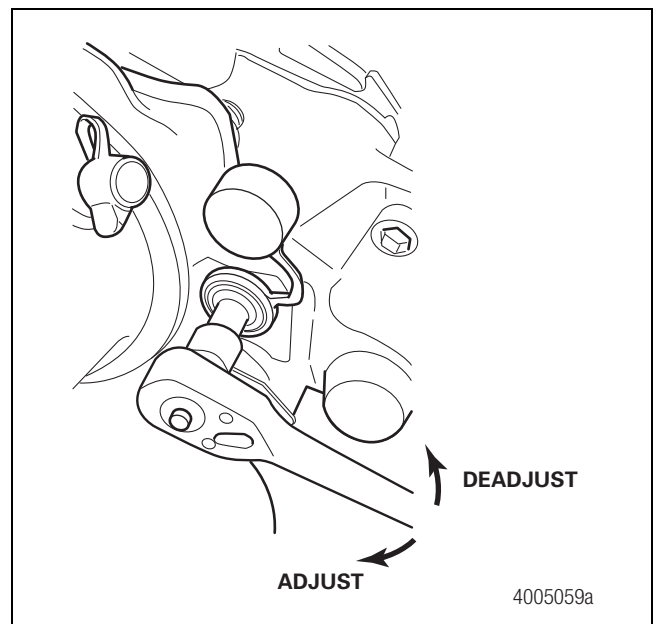

Figure 5.14
1. For disc brake wheel ends, back off the brake caliper until the rotor is clear from the pad linings about 1/16-inch (1.588 mm) gap or more. Refer to Maintenance Manual MM-0467, EX+™ Air Disc Brake, for more information about EX+ disc brake inspection and adjustment. To obtain this publication, refer to the Service Notes page on the front inside cover of this manual. Figure 5.14.